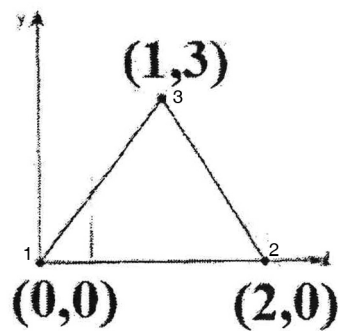

Fig. 3
- 13. a) Calculate the element stiffness matrix and the temperature force vector for the plane stress element shown in fig 3. The element experiences a  $20^\circ\text{C}$  increase in temperature. Assume coefficient of thermal expansion is  $6 \times 10^{-6}/^\circ\text{C}$ . Take  $E = 2 \times 10^5 \text{ N/mm}^2$ ,  $\nu = 0.25$ ,  $t = 5 \text{ mm}$ .